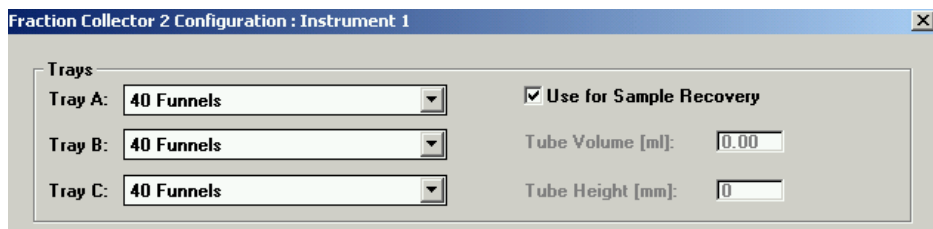

Figure 34 Sample Recovery Fraction Collector
- The preferred recovery strategy is to install multiple fraction collectors in your LC systems and use the last of those fraction collectors for recovery. This recovery fraction collector can be selected in the Configuration dialog box as displayed in Figure 34. The fourth fraction collector in your systems will always be used for sample recovery. Also read “Configuring Multiple Fraction Collectors” on page 48.